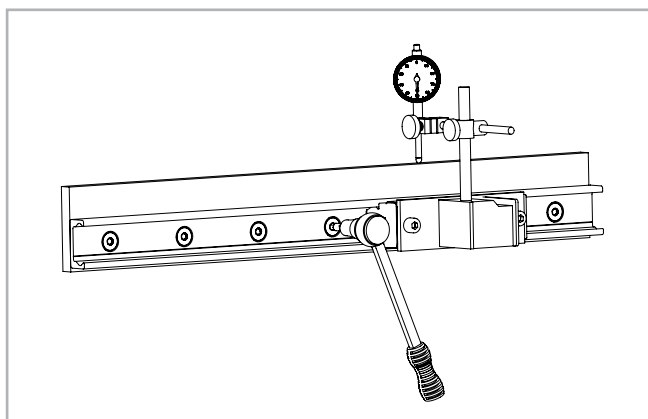

Fig. 161
(2) Install a dial indicator so that the offset of the rail to a reference line can be measured. Now position the slider in the center of the rail and set the dial indicator to zero. Move the slider back and forth between each two hole spacings and carefully align the rail. Fasten the three center screws of this area now with the specified tightening torque, see pg. fig. 161.
(3) Now position the slider on one end of the rail and carefully align the rail to zero on the dial indicator.